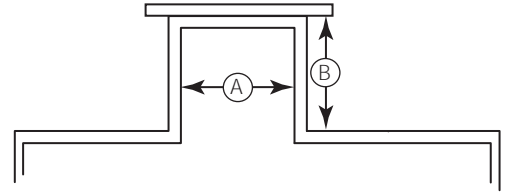

Figure 2
1. Nozzle must be $\frac{3}{4}$ " (19 mm) diameter (A) or larger.
2. Ratio of diameter (A) to length (B) is 1:1 or greater. Any ratio < 1:1 (e.g., a 2" x 6" nozzle = 1:3) can be used but may require a BLOCKING DISTANCE and/or SENSITIVITY adjustment. See Figure 2.